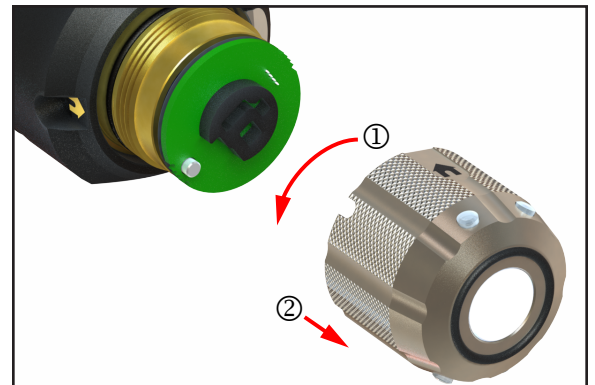

Figure 3: *Remove Knob Cap*
6. Unscrew and remove the cap by turning it counter-clockwise. See Figure 3. If the cap does not unscrew easily, ensure that the set screw is fully seated.